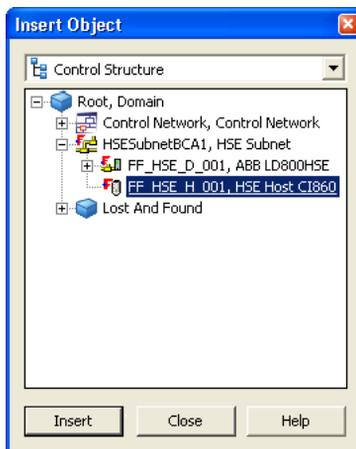

Figure 13. Insert HSE Host CI860 Object
3. Select the HSE Host CI860 object from HSE Subnet in the Control Structure (see Figure 13).